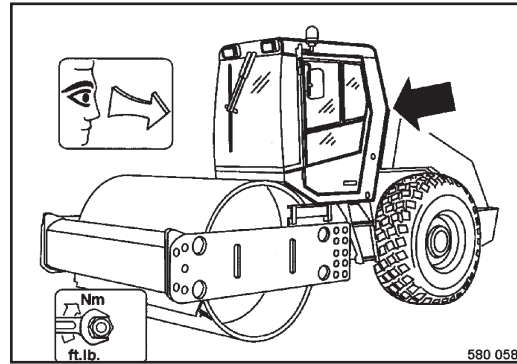

Fig. 140
- Check the cabin, especially the ROPS (Fig. 140) for cracks, corrosion, damage and missing fastening elements.